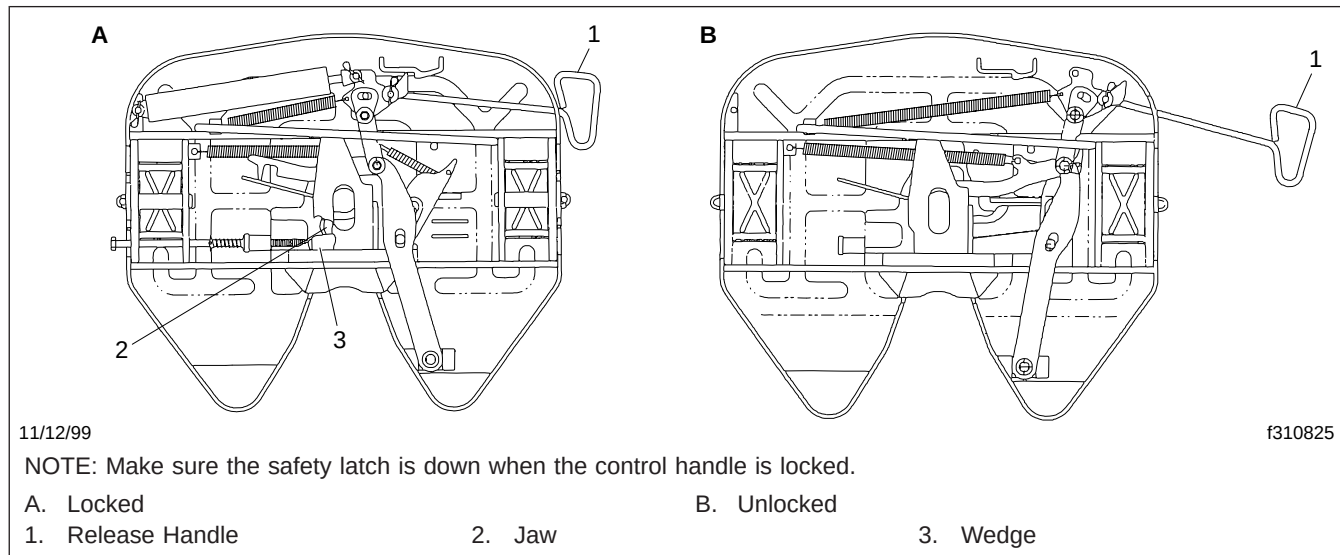

Fig. 10.4, Fontaine 6000/7000 Series Fifth Wheel, Locked and Unlocked (bottom view)
6. Make a visual and physical check for positive kingpin lockup. When lockup has occurred, the fifth wheel release handle will have moved to the locked position. See Fig. 10.4.
6. Release the kingpin locking mechanism by pulling the release handle to the unlocked position. See Fig. 10.4.